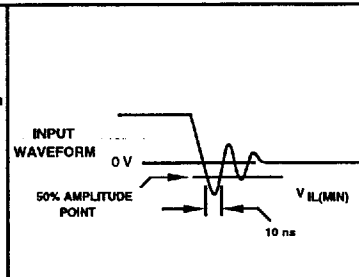

Figure 9: Input Signal Waveform
1. -1.0V for a duration of 10 ns measured at the 50% amplitude points for Input-only lines (Figure 9).